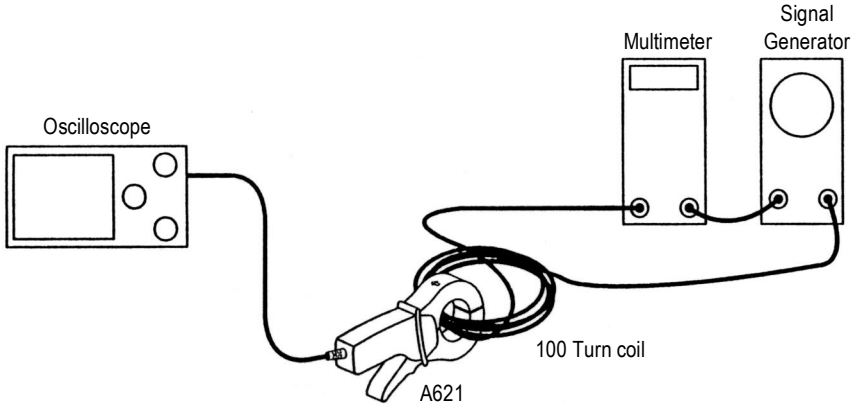

Figure 5: Setup for Maximum Input Current and Accuracy Checks
1. Connect the 100 turn current loop, the multimeter current inputs, and the signal generator output in series, using the patch cords and adapter. Set the multimeter to display AC_{RMS} current. See Figure 5.